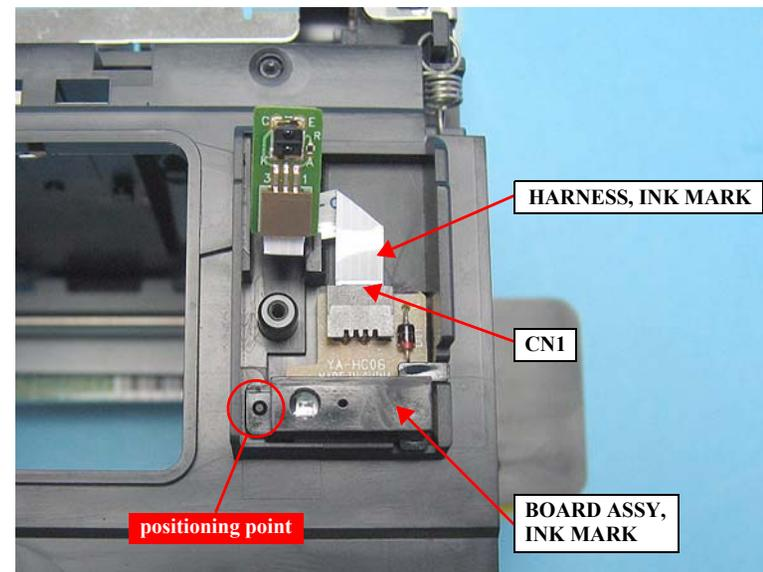

Figure 4-143. Removing the BOARD ASSY., INK MARK
3. Disconnect the HARNESS, INK MARK from CN1 connector on the BOARD ASSY., INK MARK, and remove the BOARD ASSY., INK MARK. See Figure 4-143.
Insert the positioning hole of the BOARD ASSY., INK MARK over the guide pin of the CARRIAGE, ASSY. to secure the BOARD ASSY., INK MARK. See Figure 4-143.